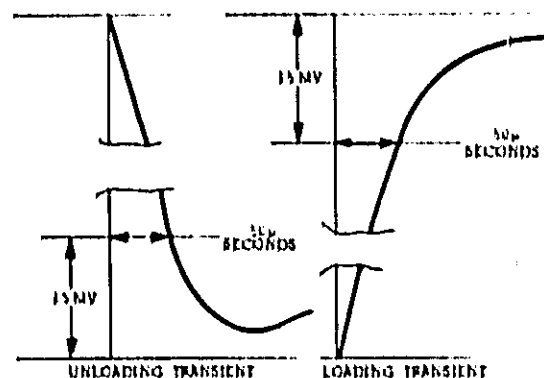

Figure 5-8. Transient Response, Waveforms
1. Adjust 25K potentiometer until a stable display is obtained on oscilloscope. Waveform should be within the tolerances shown in Figure 5-8 (output should return to within 15 mv of original value in less than 50 microseconds).